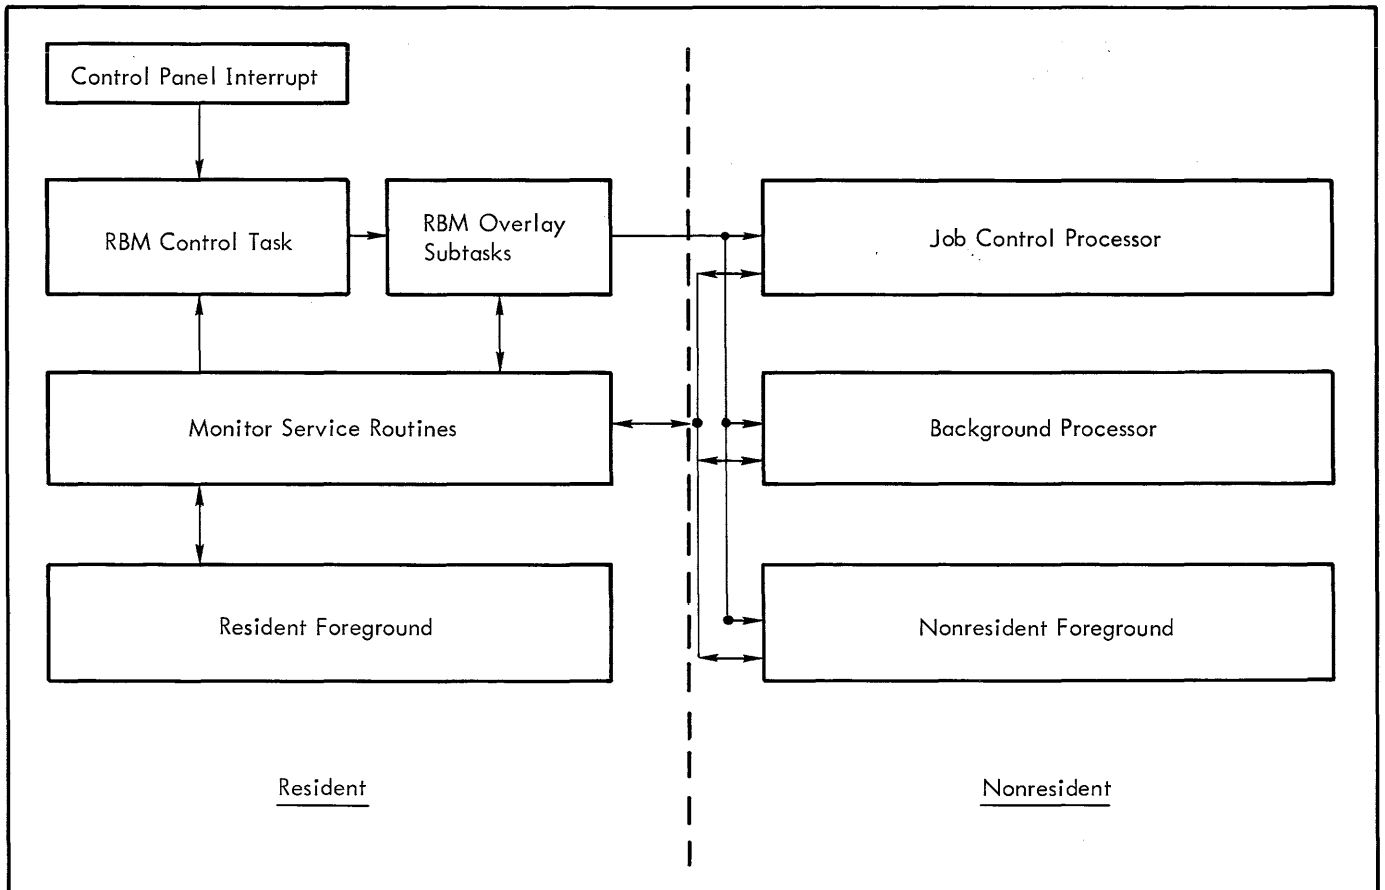

Figure 1. Operating System
- Partitioned core memory (see Figure 1) divided into
- o A protected foreground area reserved for (1) resident real-time foreground programs, (2) a single